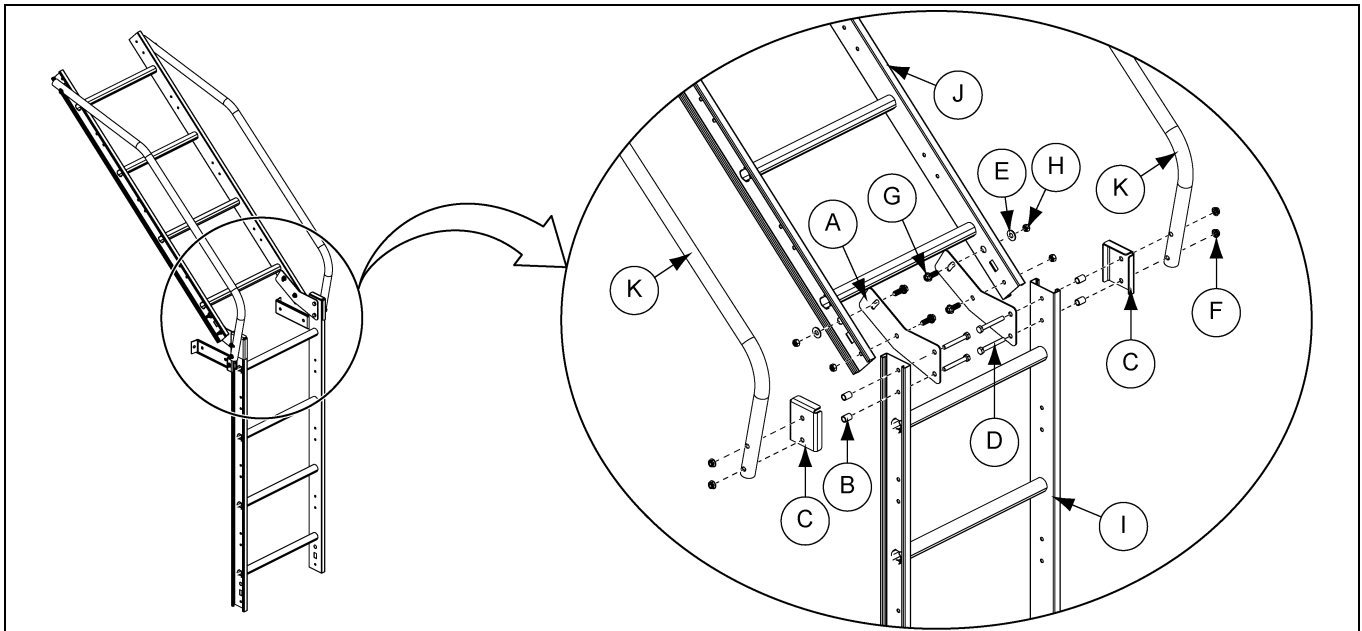

Figure 8B
1. Check the sidewall ladder (I) to make sure the ladder rung dimples face upward.
2. Attach the 30°/40° ladder connector plate (A) to the inside of the sidewall ladder (I).
3. Add the spacer washers (B) between the sidewall ladder (I) and handrail mount (C).
4. Place the handrail mount (C) and handrail (K) to the outside of the sidewall ladder (I) and connect everything together with 5/16" bolts (D) and 5/16" nuts (F).
5. Once the sidewall ladder (I) is assembled, attach the roof ladder (J) to the other end of the connector brackets (A) using 5/16" flange bolts (G), 5/16" washers (E) and 5/16" hex nuts (H). (See Figure 8B.)
**NOTE:** The roof ladder must be one continuous ladder section. The roof ladder cannot be assembled from two (2) or more smaller ladder sections spliced together. See chart below for required roof ladder lengths vs bin diameter and roof angle.